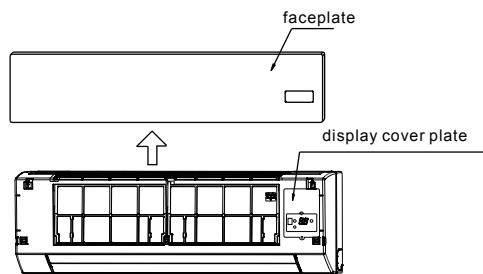

Fig.7-1
- Take out the faceplate, then dismantle the display cover plate.(Refer to Fig 7-1)